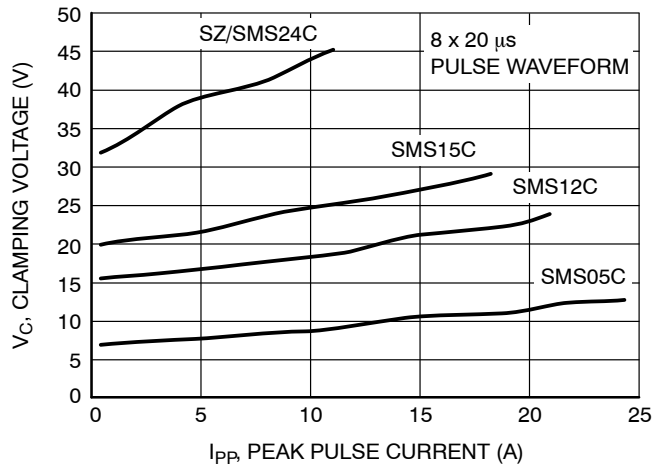

Figure 3. Clamping Voltage vs. Peak Pulse Current
2. Non-repetitive current pulse per Figure 3.